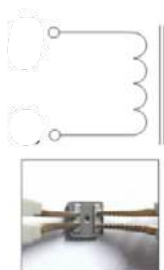

Figure 1. DCR test
- Four terminal kelvin-clip recommended for DCR testing as shown in Figure 1.